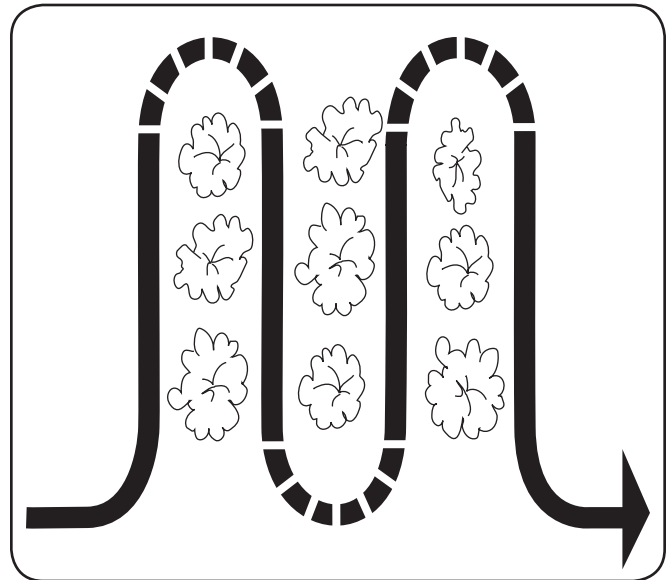

Figure 5-4
- When cultivating (breaking up surface soil around plants to destroy weeds, see Fig. 5-4), adjust the tines to dig only 1” to 2” deep. Using shallow tilling depths helps prevent injury to the plants whose roots often grow close to the surface. If needed, lift up on the handlebars slightly to prevent the tines from digging too deeply. (Cultivating on a regular basis not only eliminates weeds, it also loosens and aerates the soil for better moisture absorption and faster plant growth.) Watering the garden area a few days prior to tilling will make tilling easier, as will letting the newly worked soil set for a day or two before making a final, deep tilling pass.